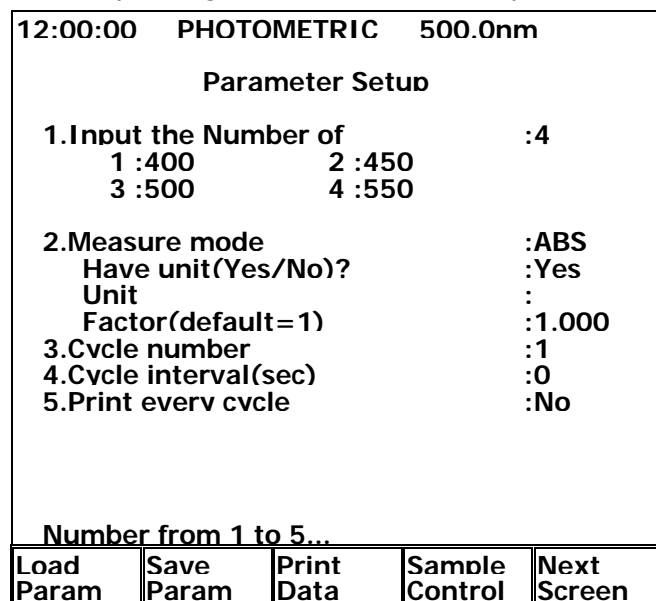

Figure 5.2 Setting of parameters
Step 2. In Parameter Setup screen (Figure 5.2), key in the number of and the corresponding values of . Each entry is followed by an ENTER key. Then go through other items (2 to 5) with proper entries as instructed. If any setting needs correction, use up/down arrow keys to move the cursor